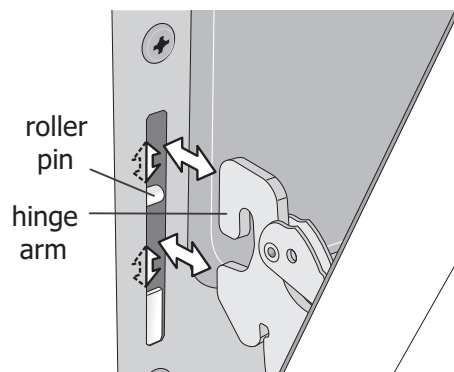

Figure 29: Replacement and location of hinge arm and roller pin
5. Lift the oven door hinge arms over the roller pins located on each side of the oven frame (See Figure 29).
2. Holding the oven door at the same angle as the removal position, seat the hook of the hinge arm over the roller pins located on each side of the oven door frame (See Figure 29). The hook of the hinge arms must be fully seated onto the roller pins.